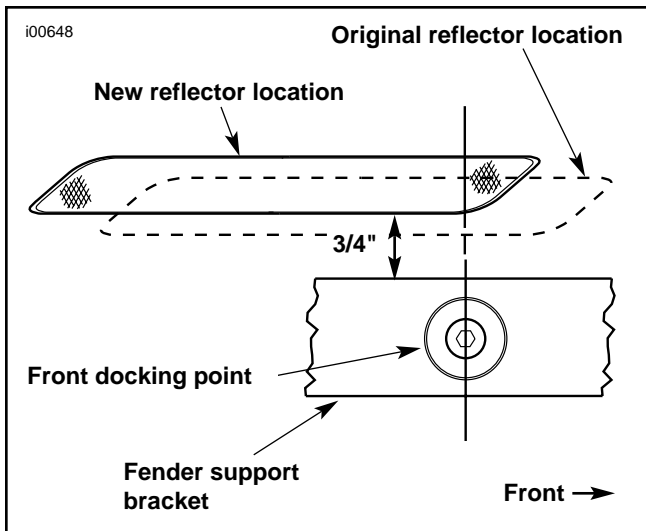

Figure 2. Reflector Relocation
5. See Figure 2. Reattach the reflector to the fender by aligning the lower front corner of the reflector with the centerline of the front docking point. The reflector should be 3/4 of an inch above and parallel to the fender support bracket cover.